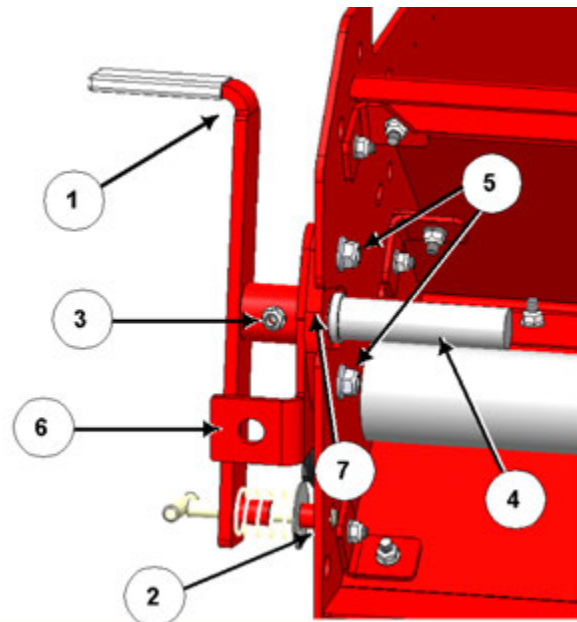

Figure 3: Remove adjustment handle, pin storage and adjustment tube
- a. If the guard rod adjustment handle (1) is installed, follow the below steps and refer to *Figure 3*:
- i. Pull the guard rod adjustment handle (1) out of the handle lock (2).
- ii. Remove the cross bolt (3) that is through the guard rod adjustment bar (4) and handle (1), and remove the handle. Set the handle aside for re-use.
- iii. Remove the bolts (5) fastening the pin storage (6) and guard rod adjustment tube (7) to the tub wall, and remove. Set the pin storage and adjustment tube aside for re-use.